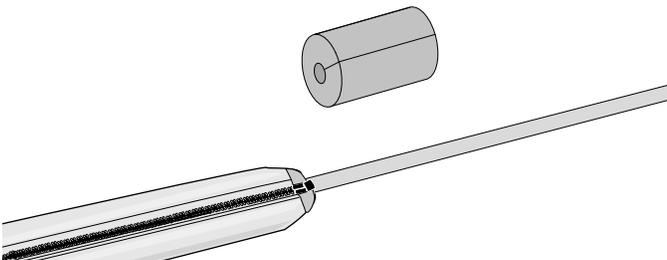

Figure 5
- Remove the foam sleeve from the cable and grip (Figure 5). If necessary use the razor blade to split the foam. **USE CAUTION TO PREVENT DAMAGE TO THE CABLE.**